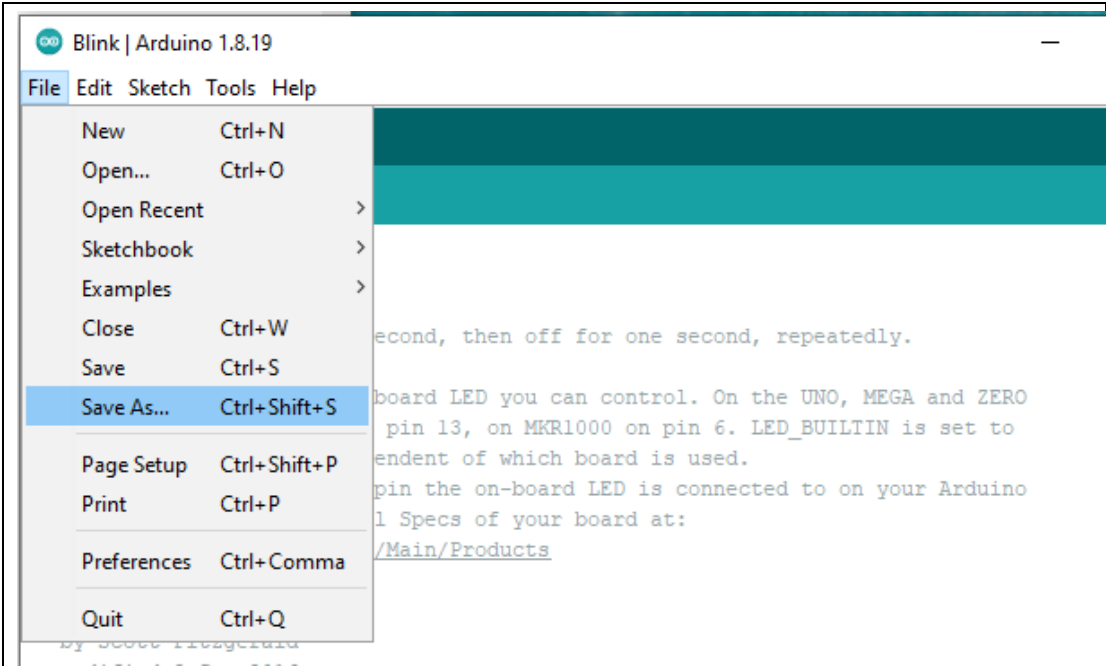

Figure-2.2 Save as a new project
2. If you want to modify the official example, you have to save it as your own project. Select 'File' 'Save AS...' to save the project to a writable folder (e.g. C:\temp) (Figure-2.2). You can save it with the same or other name.